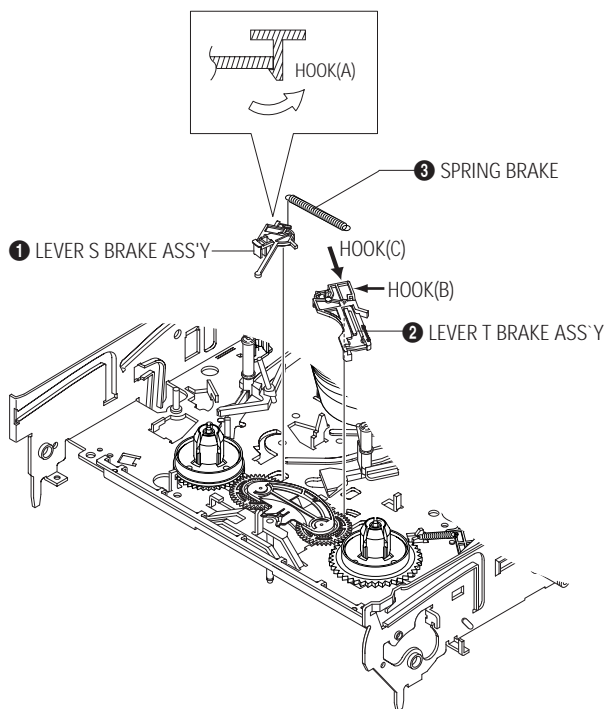

Fig. 5-25 Lever Brake S, T Ass'y Removal
- 1) Remove the Lever Brake S Ass'y (Refer to Fig 5-25).
- 2) Remove the Spring Tension Lever ❶.
- 4) Lift the Lever Tension Ass'y ❷ & Band brake Ass'y ❸.
- 1) Release the Hook [A] and the Hook [B], [C] in the direction of arrow as shown in Fig 5-25.
- 2) Lift the Lever S, T Brake Ass'y ❶, ❷ with spring brake ❸.